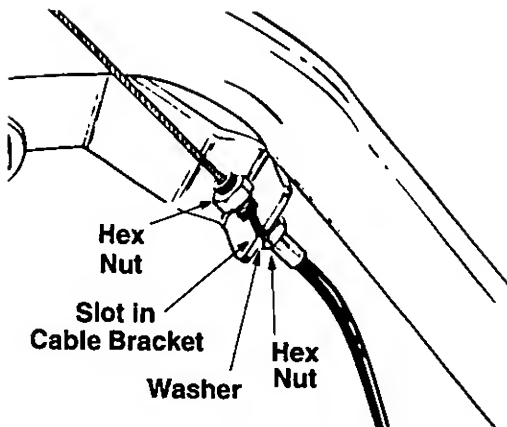

Figure 5
2. Slip the wire through the slot on the cable bracket on the handle. Push the end of the casing up through the cable bracket. Slide the lock washer on the casing and rethread the hex nut on the end of the cable casing, four turns. Do not tighten at this time. See Figure 5.
If the belt turns with the unit in **neutral**, adjust by moving the hex nut below the cable bracket **down** two full turns. See Figure 5. Tighten the upper hex nut against the bracket.